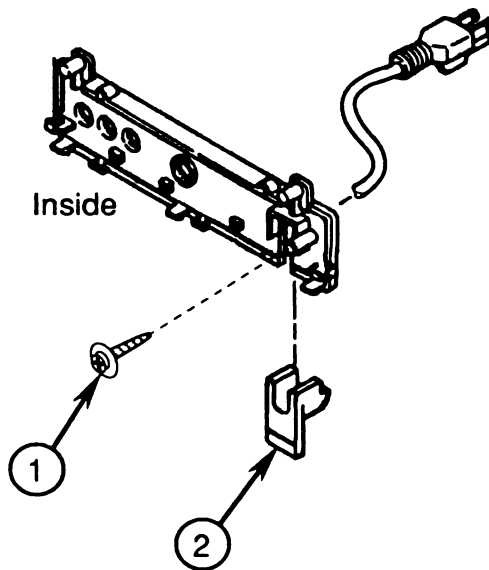

FIGURE 22
15. Remove the single screw that holds the power cord in place (Figure 22, #1).
16. Pull off the plastic holding piece that fits underneath the power cord (Figure 22, #2), and remove the rear panel.